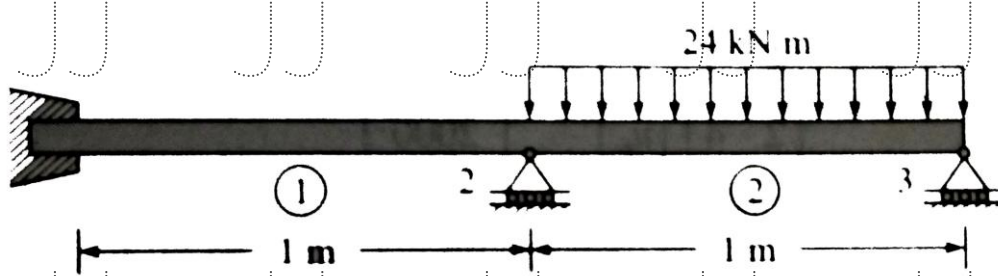

Figure 2
5. Determine the slope and vertical deflection at the centre for the following beam figure 2. [10]